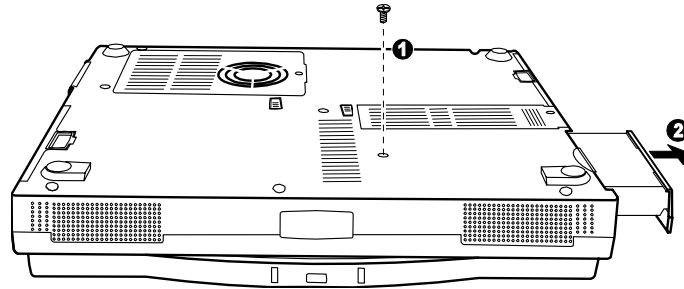

FIGURE 7-8. REMOVING THE HARD DISK DRIVE MODULE
3. SLIDE THE HARD DISK DRIVE MODULE INTO THE COMPARTMENT AND SECURE WITH ONE SCREW. (REFER TO FIGURE 7-8 EARLIER).